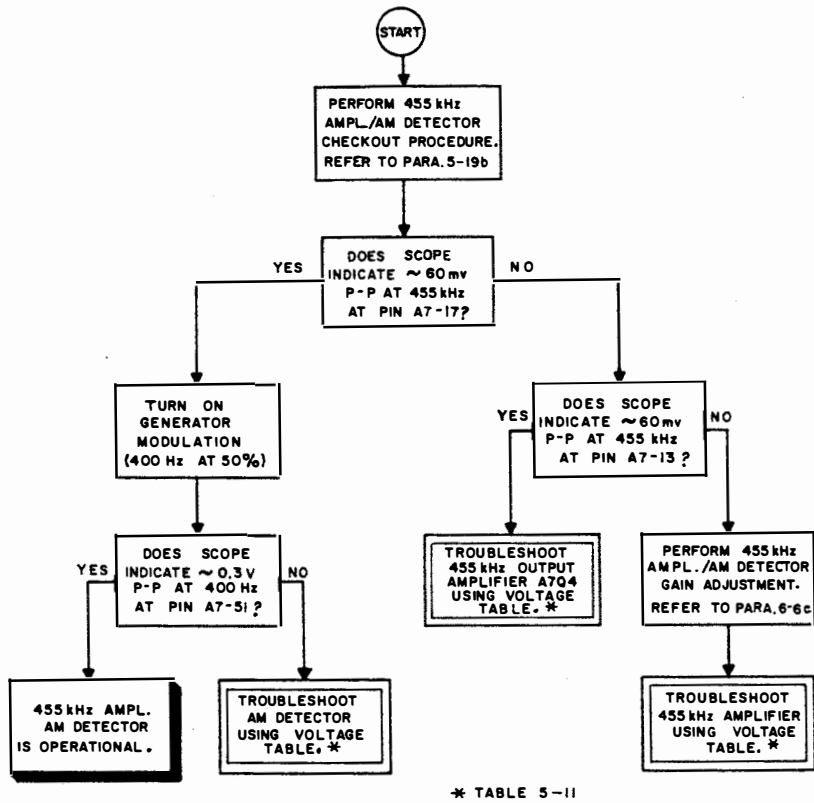

Figure 5-16. 455 kHz AMP/AM Detector Fault Logic Diagram
- (1) Figure 5-16, 455 kHz Amplifier/AM Detector Fault Logic Diagram.
- (2) Table 5-11, 455 kHz Amplifier/AM Detector Voltage Table.
- (3) FO-9, 455 kHz Amplifier/AM Detector Schematic Diagram.
- (4) 455 kHz Amplifier/AM Detector circuit description, paragraph 3-44.